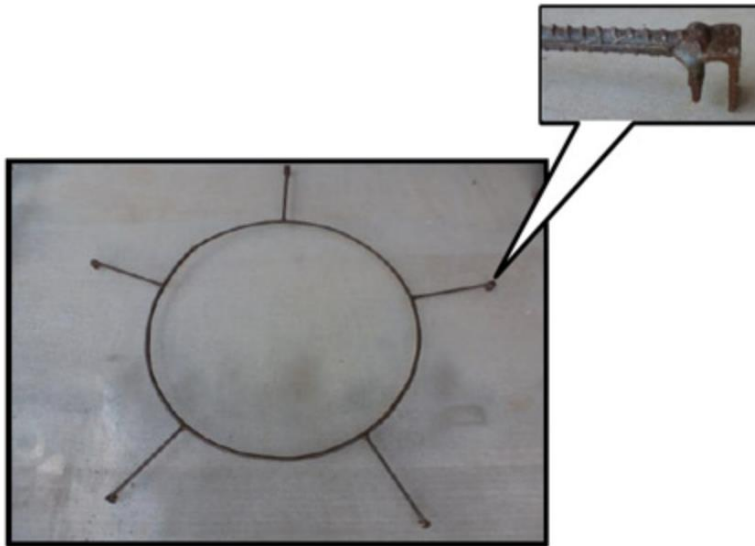

Figure 1. Rebar Jig
- Optional: A rebar jig (Figure 1 at right) to hold the drain field pipes in place as you fill the Johnson-Su bioreactor. If you have helpers or if you are willing to adjust the pipes as you fill the bioreactor, you will not need the jig.